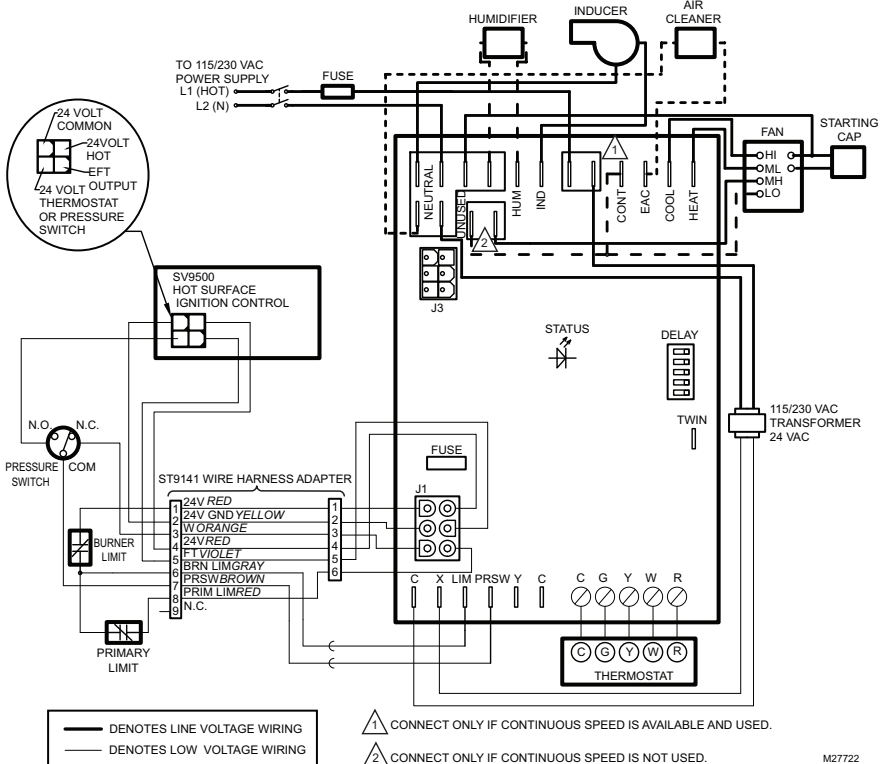

Fig. 4. Typical ST9120U wiring connections in ST9141 system with SV9500/SV9501 SmartValve™ Control.
7. Check proper connection using Fig. 4.